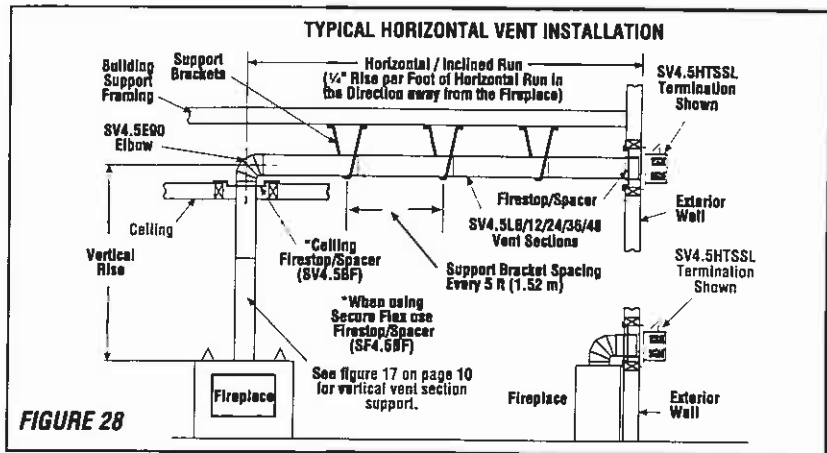

FIGURE 28
Figures 28, and Figures 34 to 41 on pages 16 to 18 and their associated Horizontal Vent Table illustrate the various horizontal venting configurations that are possible for use with these appliances. **Secure Vent** pipe applications are shown in these figures; **Secure Flex** pipe may also be used. A Horizontal Vent Table summarizes each system's minimum and maximum vertical and horizontal length values that can be used to design and install the vent components in a variety of applications.
I. Continue installation of horizontal/inclined sections - Continue with the installation of the straight vent sections in horizontal/inclined run as described in **Step E**. Install support straps every 5 ft. (1.52 m) along horizontal/inclined vent runs using conventional plumber's tape. See **Figure 28**. It is very important that the horizontal/inclined run be maintained in a straight (no dips) and slightly elevated plane in a direction away from the fireplace of $\frac{1}{4}$ " rise per foot (20 mm per meter) of horizontal vent. Use a carpenter's level to measure from a constant surface and adjust the support straps as necessary.